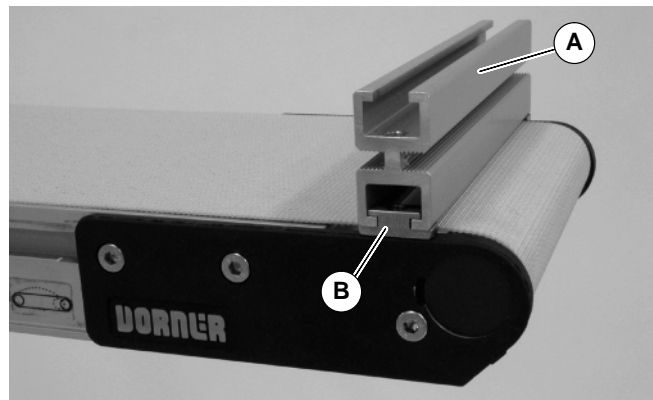

Figure 5
7. Insert spacer (B of Figure 5) in both ends of end stop (A).